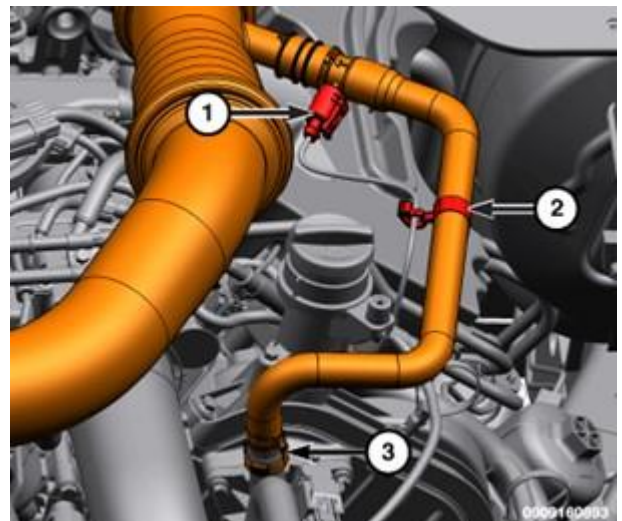

Figure 177 – Clean Air Hose
9. Disconnect the crankcase breather hose (3) (Figure 177).
10. Disconnect the Closed Crankcase Ventilation (CCV) heater wire harness connector (1) and detach the wire harness retainer (2) (Figure 177).